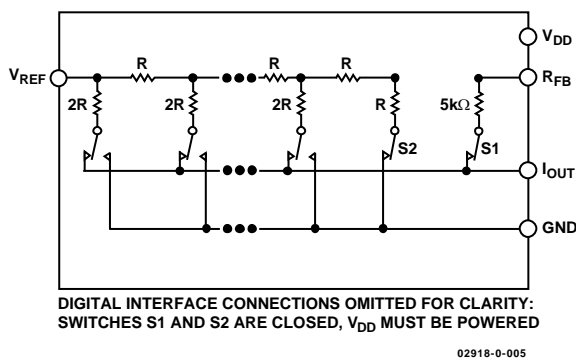

Figure 16. Equivalent R-2R DAC Circuit
The DAC architecture uses a current-steering R-2R ladder design. Figure 16 shows the typical equivalent DAC. The DAC contains a matching feedback resistor for use with an external I-to-V converter amplifier. The R_{FB} pin is connected to the output of the external amplifier. The I_{OUT} terminal is connected to the inverting input of the external amplifier. These DACs are designed to operate with both negative or positive reference voltages. The V_{DD} power pin is used only by the logic to drive the DAC switches on and off. Note that a matching switch is used in series with the internal 5 kΩ feedback resistor. If users attempt to measure the R_{FB} value, power must be applied to V_{DD} to achieve continuity. The V_{REF} input voltage and the digital data (D) loaded into the corresponding DAC register, according to Equation 1 and Equation 2, determine the DAC output voltage.